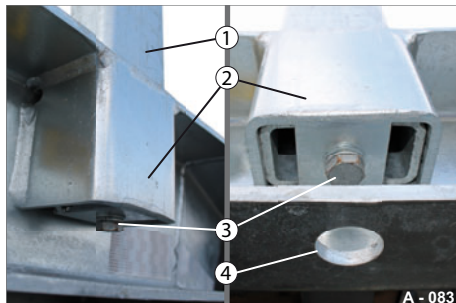

Fig. 105 Side posts/loft area
- ▶ Insert the post (Fig. 105/1) completely into the post pocket (Fig. 105/2).
- ▶ Secure the post with screws/washers (Fig. 105/3) from below.